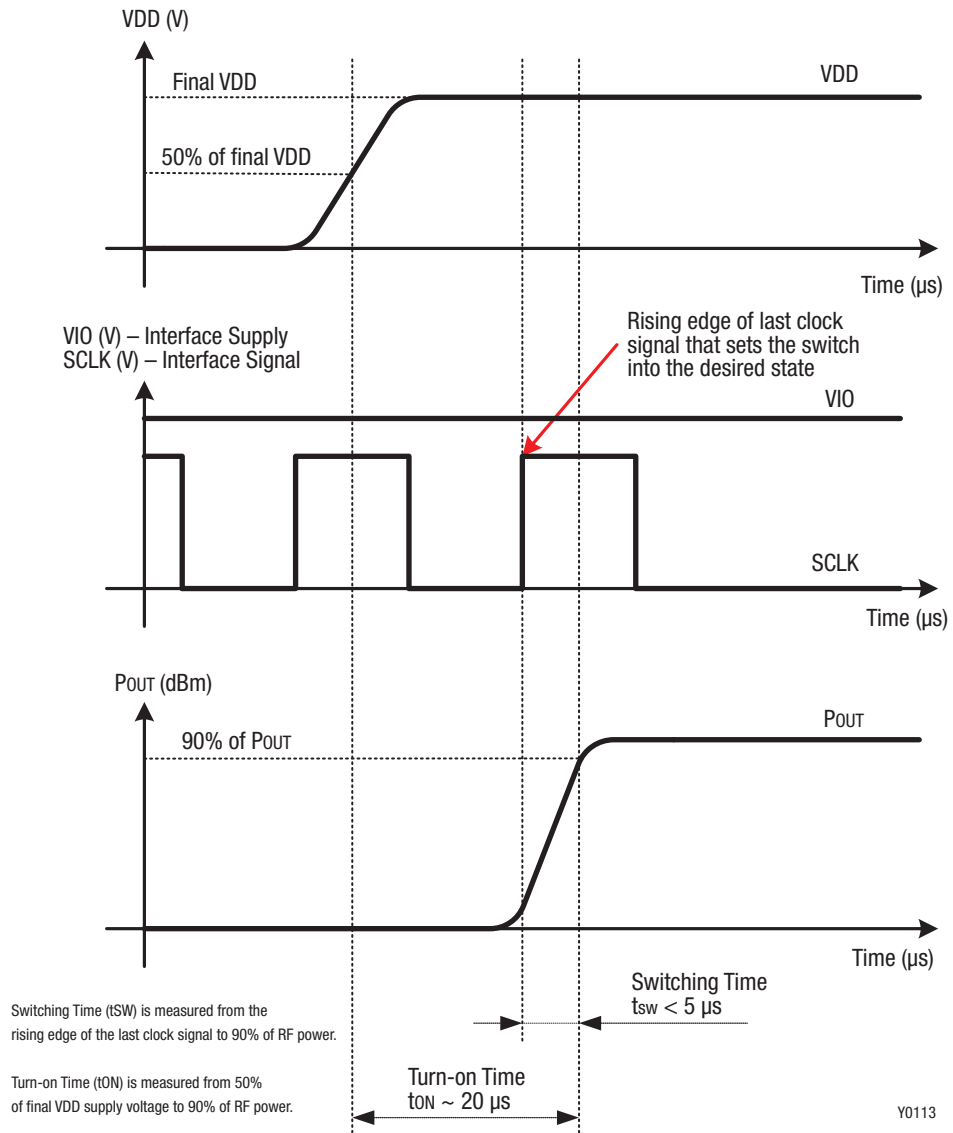

Figure 3. SKY13491-31. Timing Diagram
Figure 3 shows a timing diagram. Figure 4 illustrates the test setup used to measure intermodulation products. This industry standardized test is used to simulate the WCDMA Band 1 linearity of the antenna switch. A +20 dBm continuous wave (CW) signal, f_{FUND} , is sequentially applied to the TRX1 through TRX12 ports, while a -15 dBm CW blocker signal, f_{BLK} , is applied to the ANT port.
| Turn-on time (See Figure 3) | ton | From application of V _{DD} and V _{IO} | | | 20 | μs |
| Switching speed (See Figure 3) | ts | Port to port | | 2 | 5 | μs |